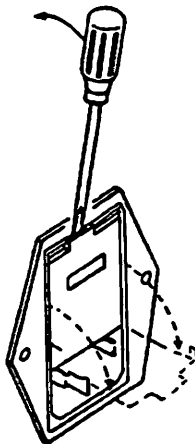

Figure B-2. Opening the power module cover
2. After placing the oximeter in the battery charger, as shown in Figure B-2, power it on.
You'll need a small, flat-blade screwdriver. Refer to Figures B-2, B-3, and B-4 to access the fuse holders.